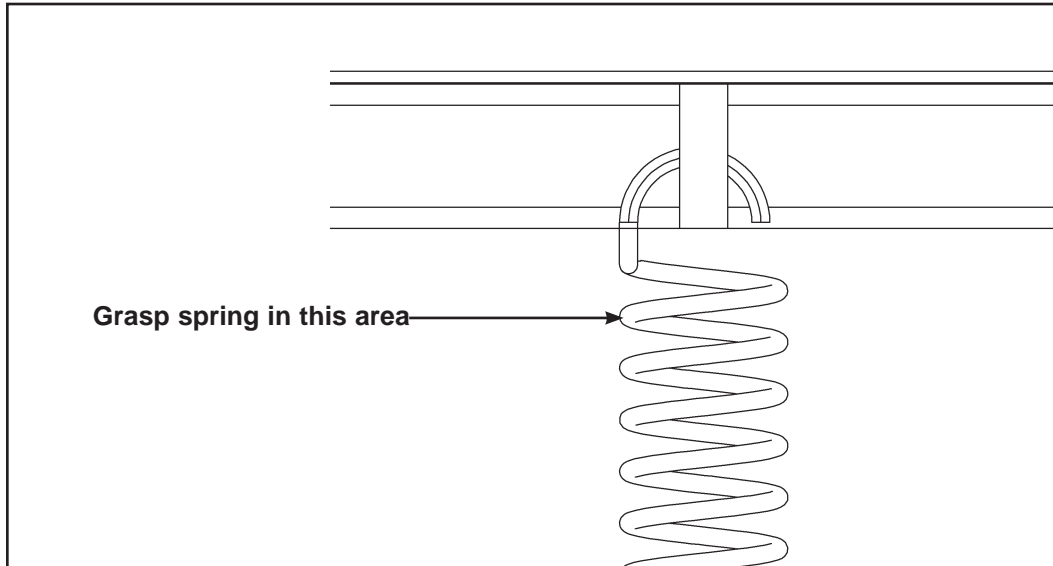

Figure 2
2. Disconnect upper end of each spring (refer to steps 2A - 2E, Figures 2 and 3).
A. Firmly grasp upper end of spring. See Figure 2.